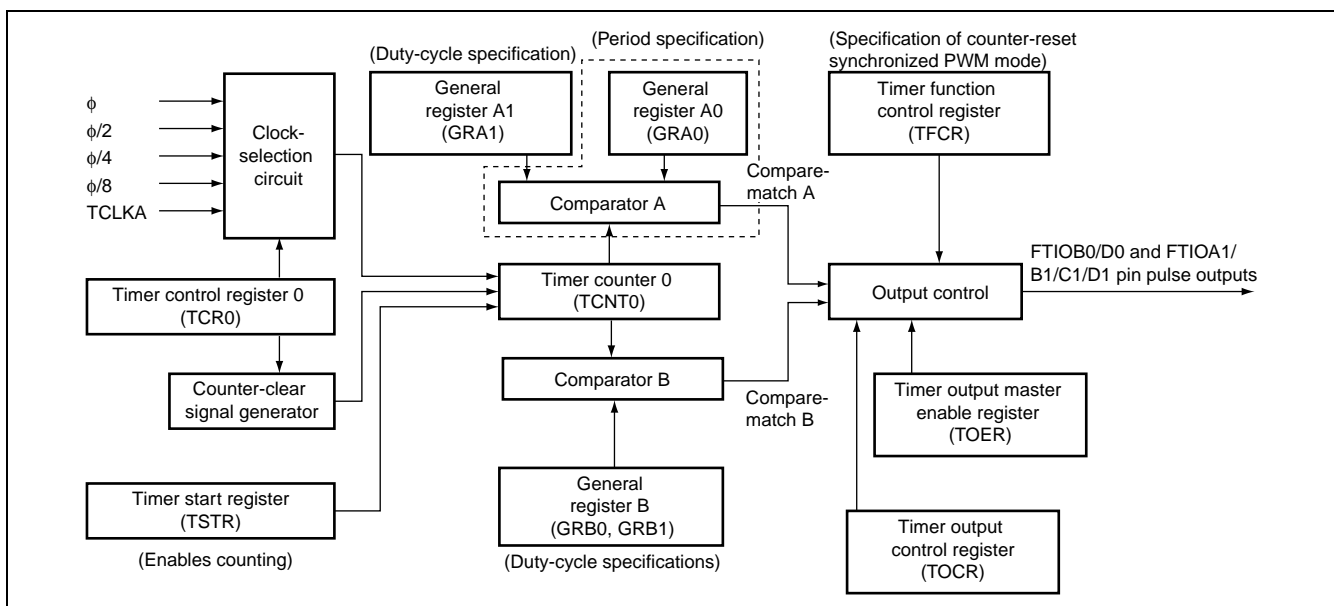

Figure 2.1 Timer Z Channels 0 and 1 in the Counter-Reset Synchronized PWM Mode
1) Figure 2.1 is a block diagram of timer Z, which is used in this sample task.